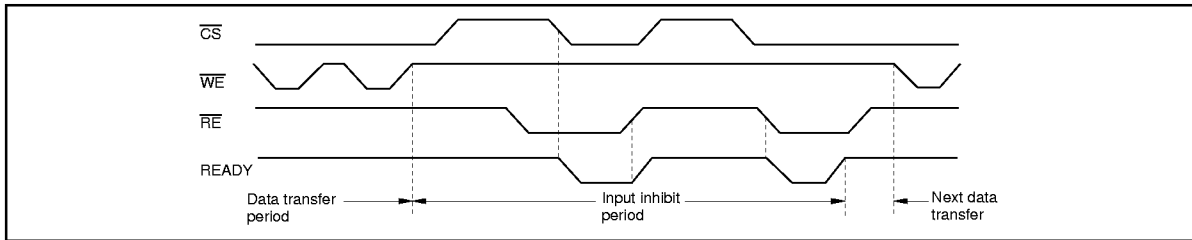

Figure 15 READY Output Timing (When It Is Made Available by \overline{CS} and \overline{RE})
- b. READY is made available by \overline{CS} and \overline{RE} (Figure 15).